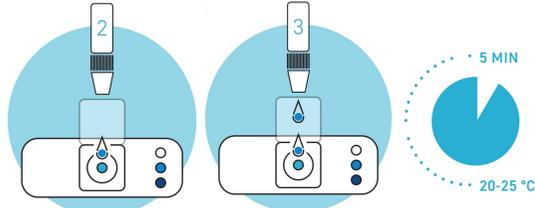

Figure2. Signal Reaction
1. Open the label again. Add 1 drop (10 µl) of the chromogen solution (Bottle 2) into the well. See figure 2.